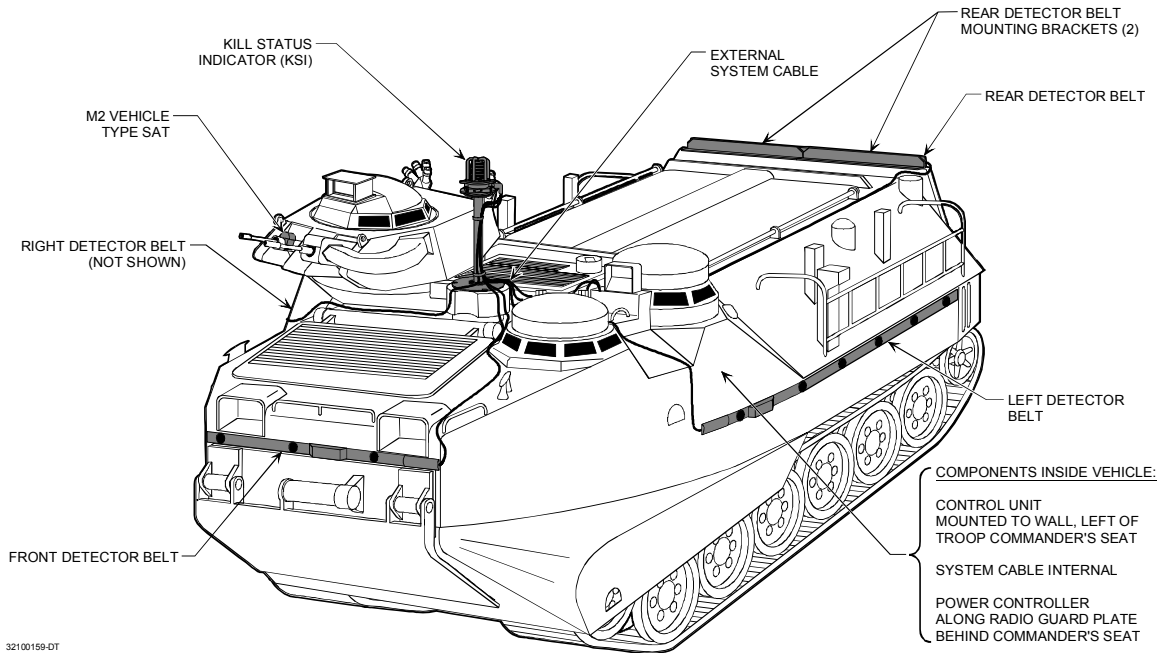

Figure 2-6. AAV-P7.
2.3.1 Installation of MILES 2000 Equipment on AAV-P7. (See Figure 2-6.)